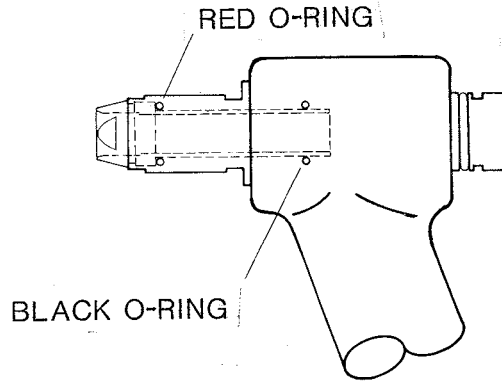

Figure 4-C O-Ring Locations
6. Remove the liner/gas distributor (4) using 7/16" open end wrench.
7. Remove the red O-ring (Fig. 4-C) from inside the front of the torch using the hook end of the O-ring removal tool.
8. Remove the black O-ring (Fig. 4-A) from further inside the torch by spearing it with the point of the O-ring removal tool and dislodging from the groove. Remove from the torch using the hooked end of the O-ring removal tool.